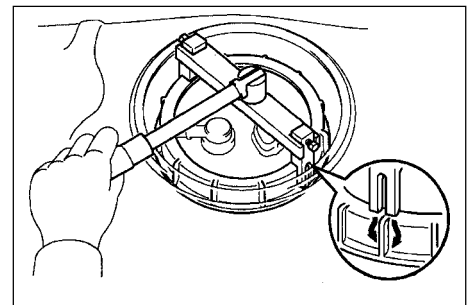

Figure 3-7
5. Remove the fuel oil pump assembly with a filter (see Figure 3-7)